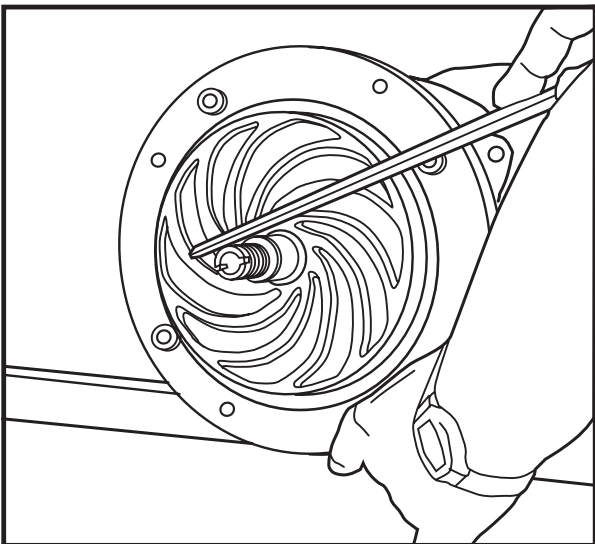

Fig. 24
16. File off any burrs made on impeller neck with vise grip pliers. See figure 24.